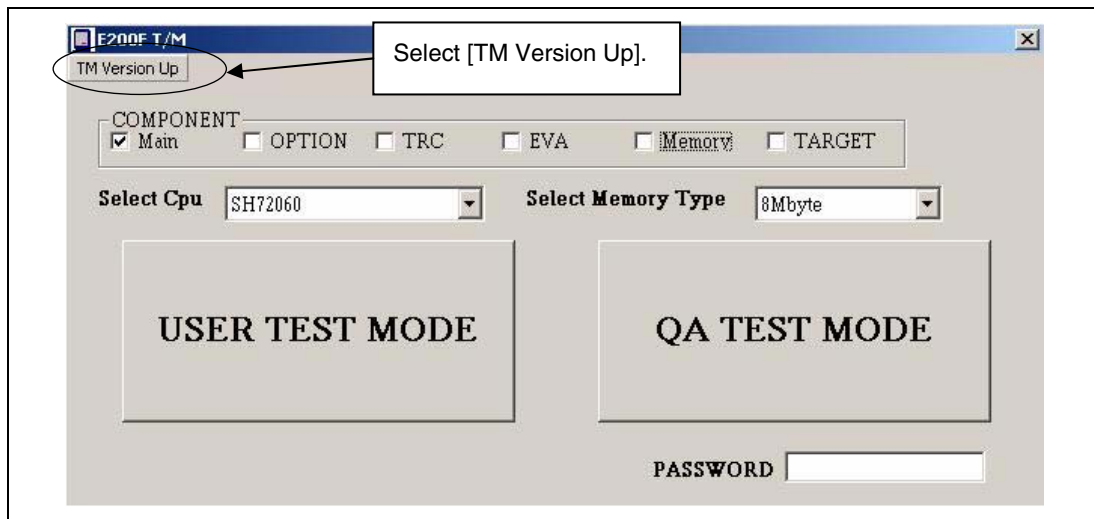

Figure 3.8 Initial Screen of the E200F Diagnostic Program
4. The diagnostic program of the emulator is started and the initial screen (figure 3.8) is displayed.
10. The initial screen of the E200F diagnostic program is displayed (figure 3.8).